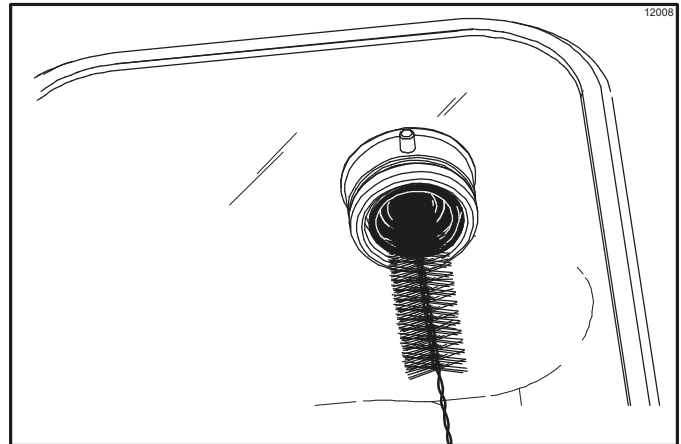

Figure 6-59
4. Using the black brush, clean the drive hub opening in the rear wall of each mix hopper. (See Figure 6-59.)